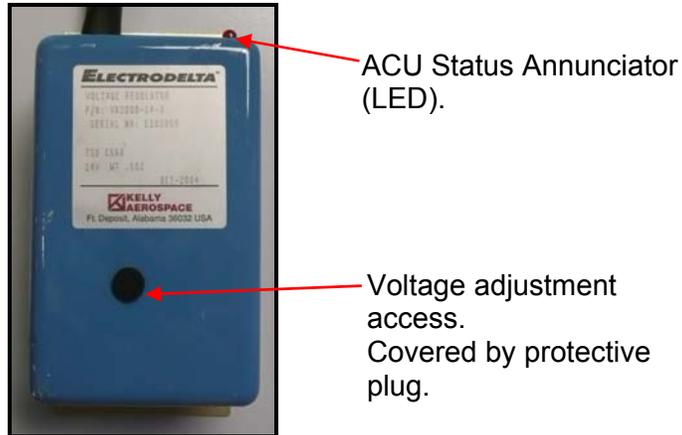

Figure 24-9 ACU Voltage Adjustment
14. Access the ACU adjustment by removing the access hole protective plug, as shown in Figure 24-9.